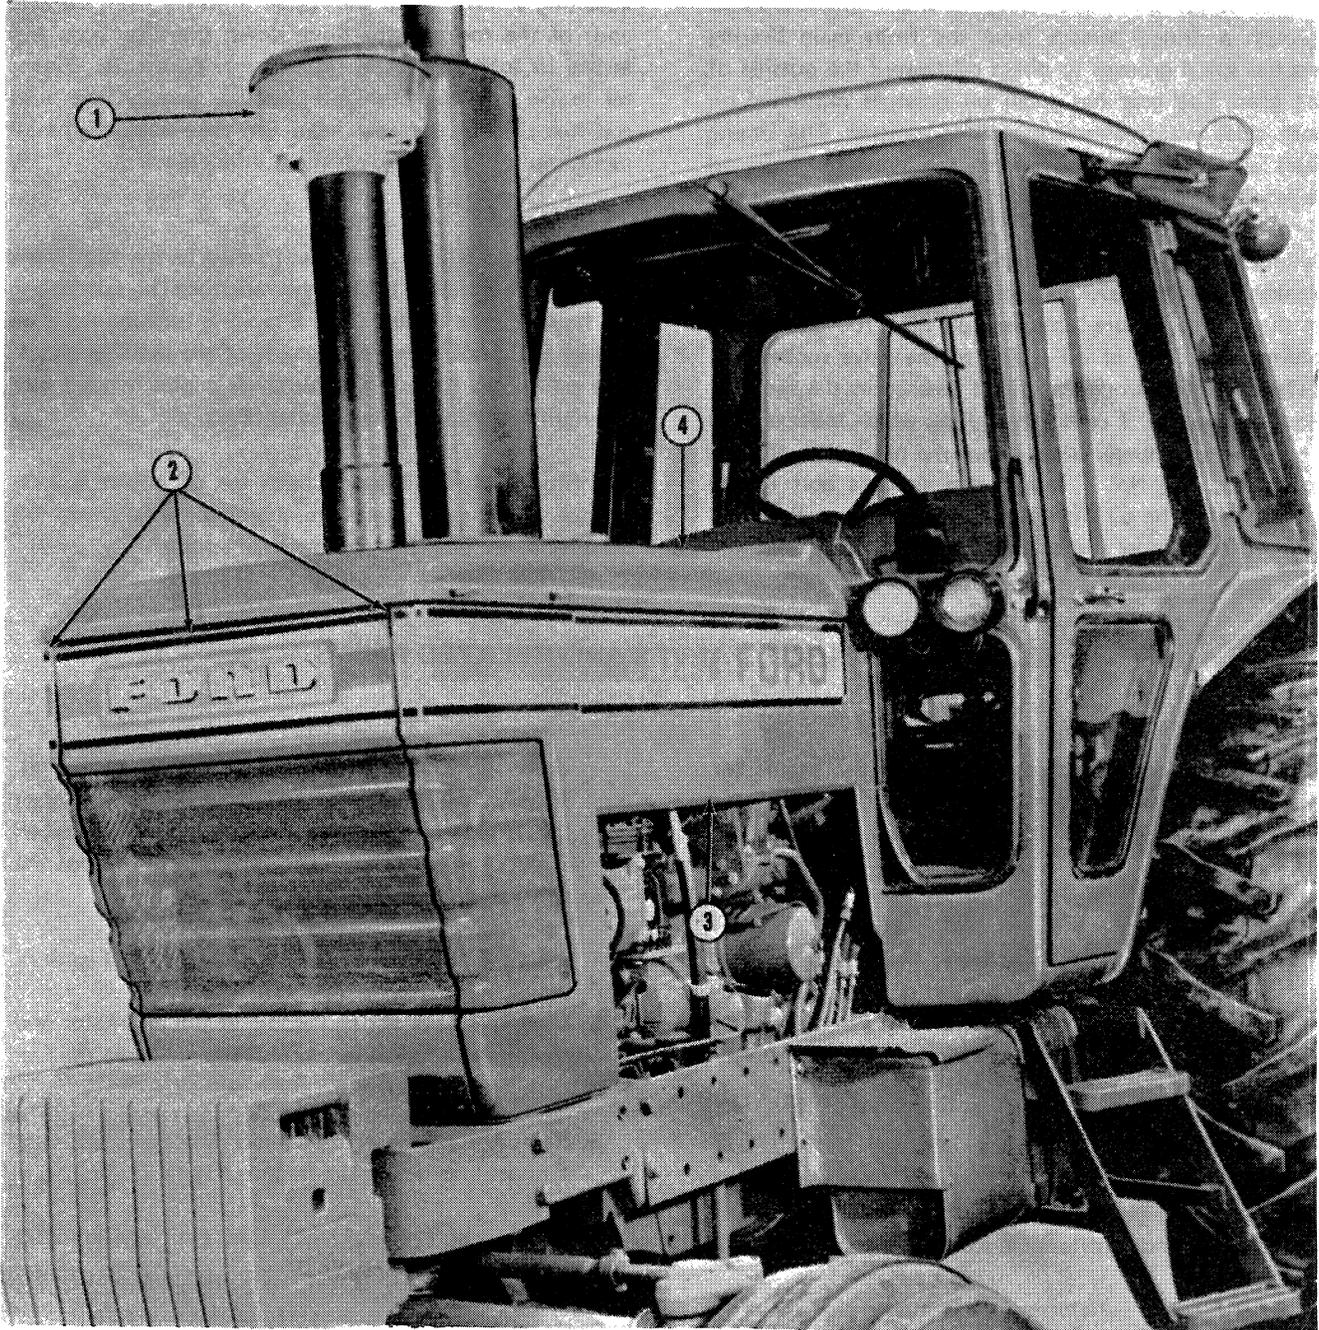

Figure 1
2. Remove two side panels, three radiator grille panels and the top hood panel, Figure 1.